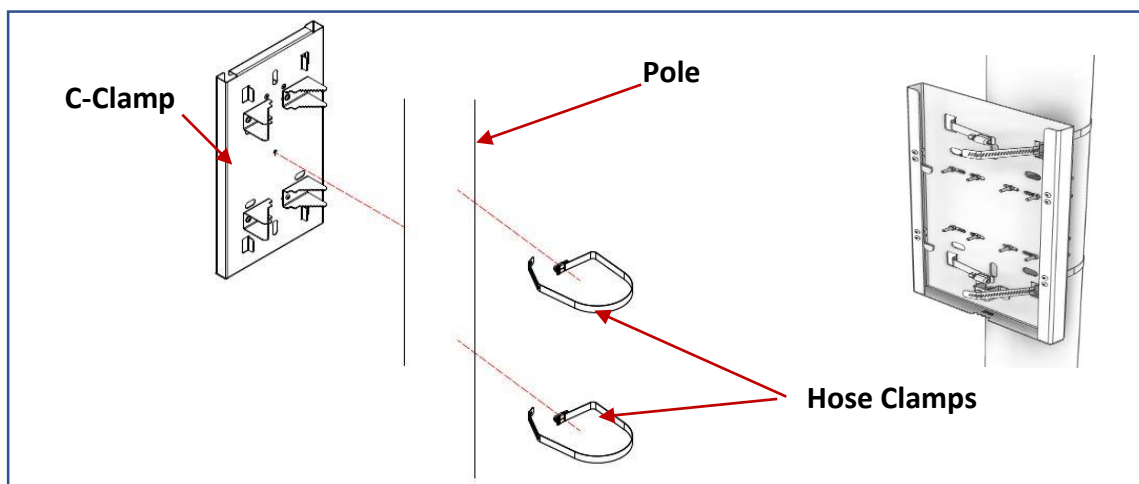

Fig. 10
STEP 3: Insert one hose clamp on top side and second on the bottom side of the C-Clamp(P3) rectangular slots keeping the pole in loop. Fig.10